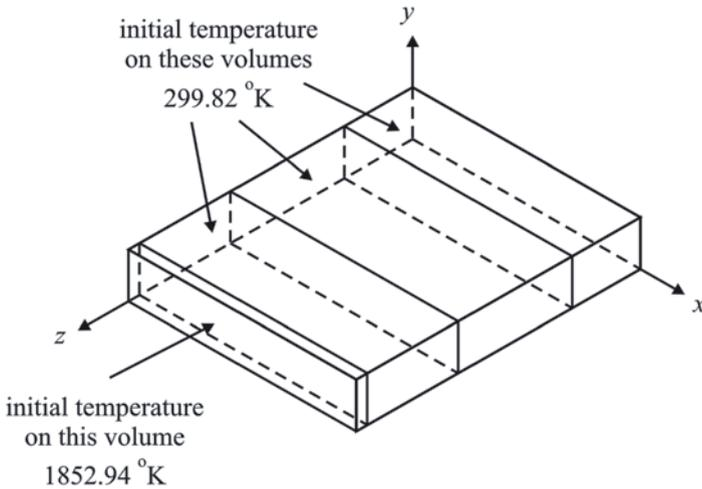

Fig. 9.59 Volumes to be selected for initial temperatures
- *Pick Menu* appears; pick the volumes indicated in Fig. 9.59; click on **OK** in the *Pick Menu*.